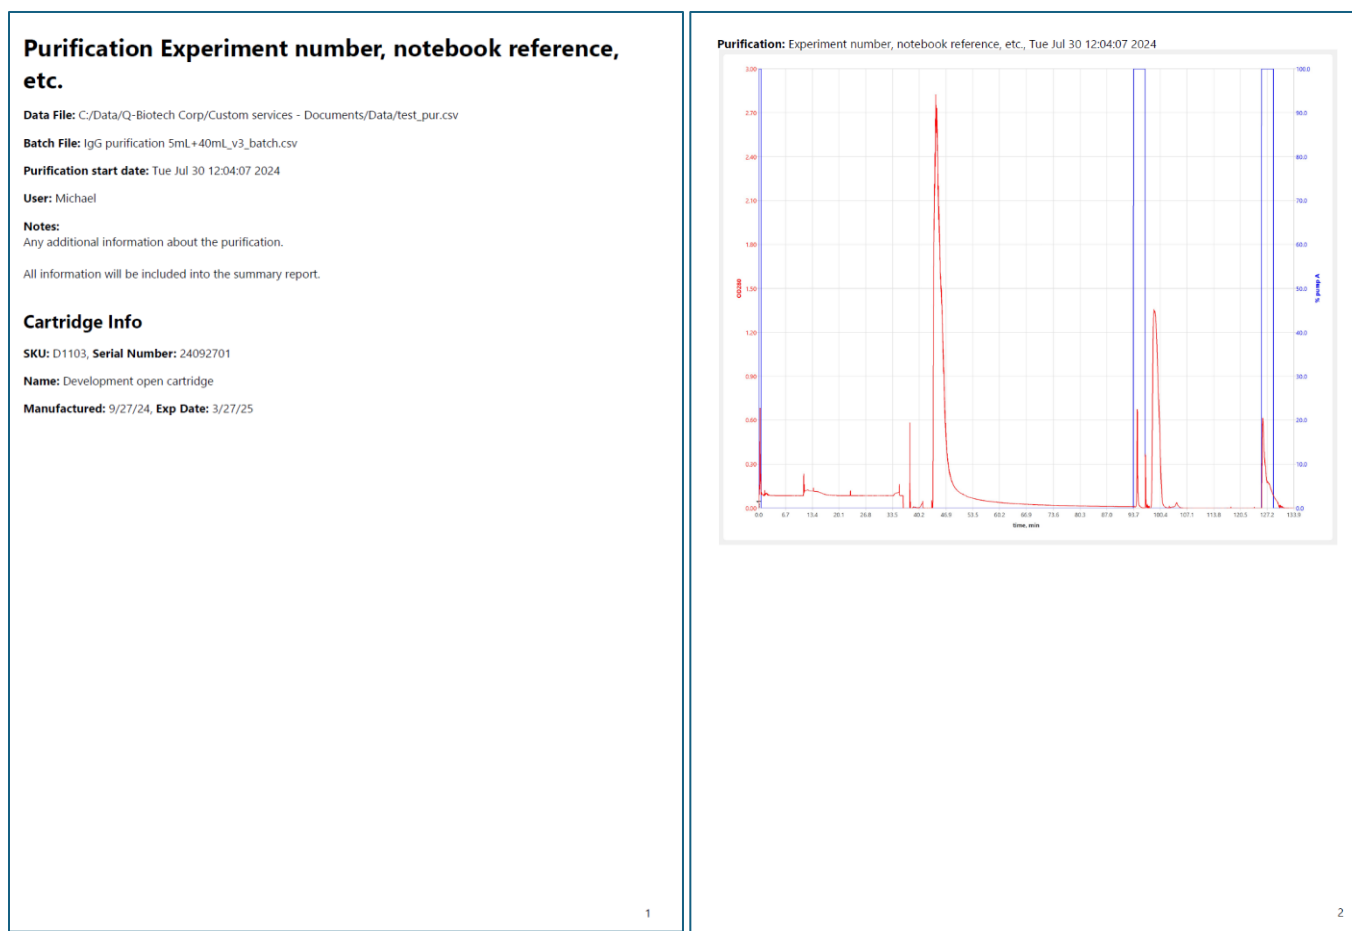

Figure 18. Example of printed report.
- 14 In order to print a purification report Select menu File/Print report. The report can be printed to any printer installed on the computer, including "print to pdf". An example of the report is shown in Figure 18.